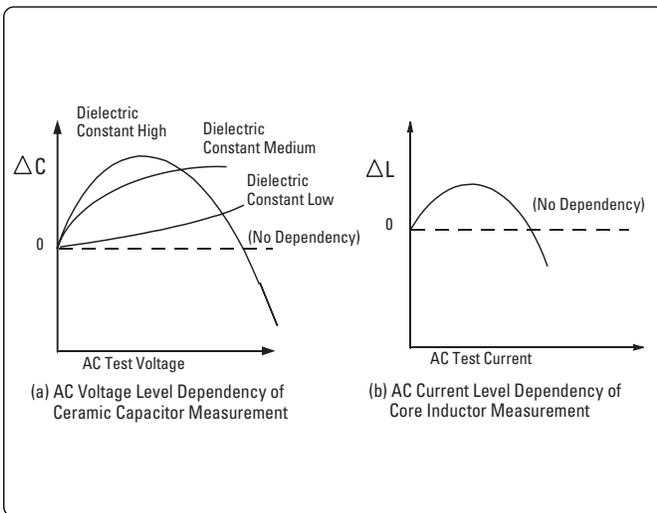

Figure 2-2. Signal Level Dependency
Signal level (AC) dependency is exhibited in the following ways (see Figure 2-2):